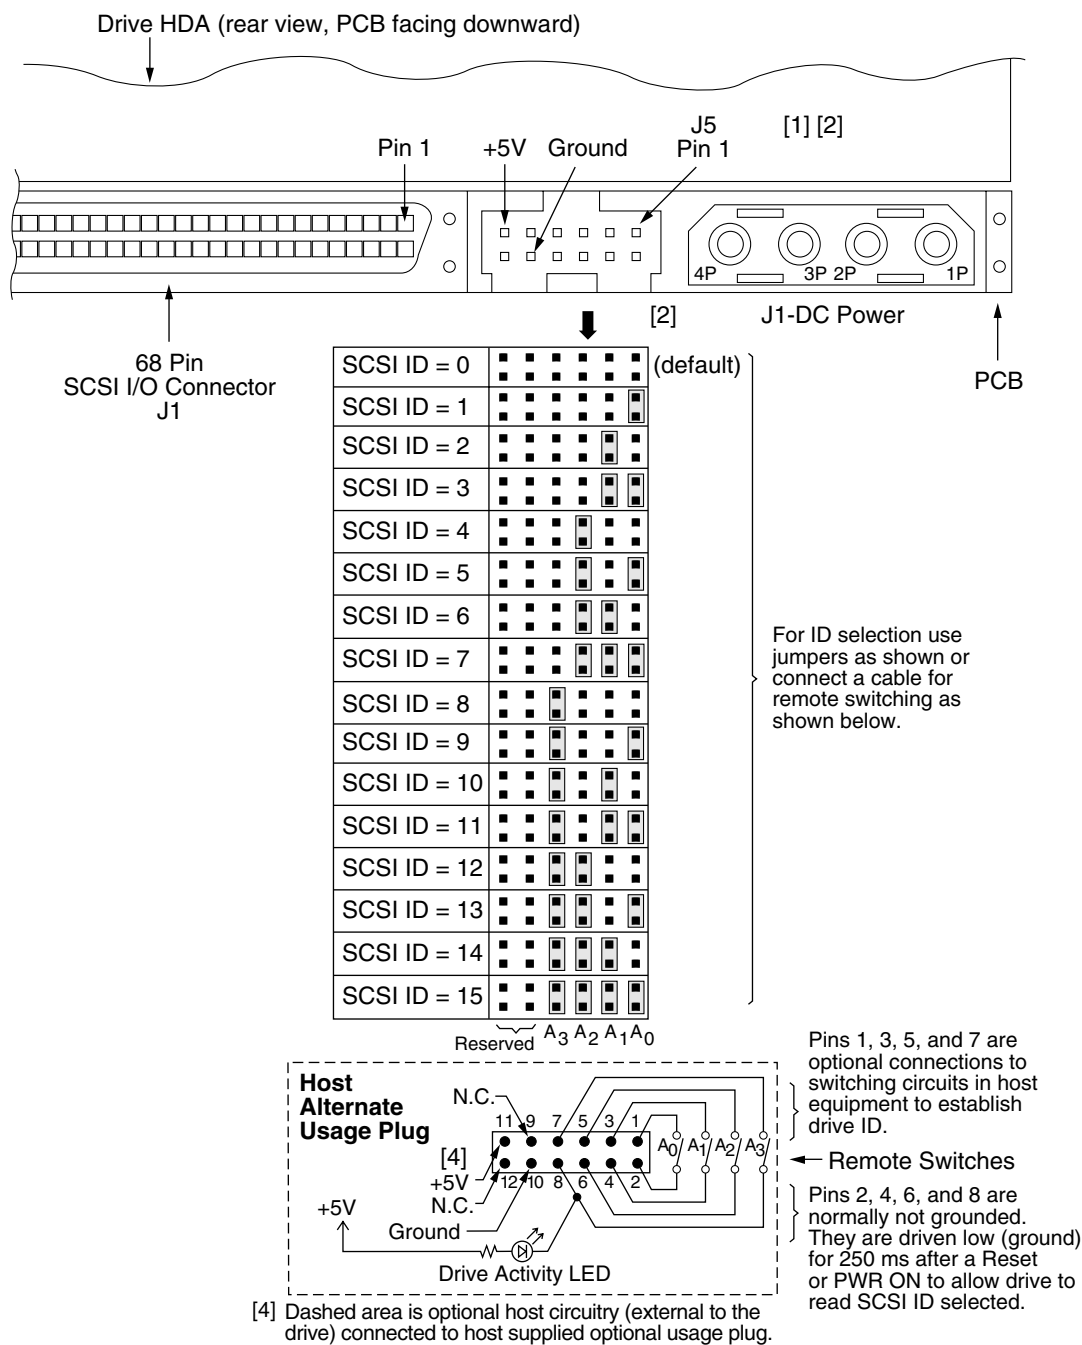
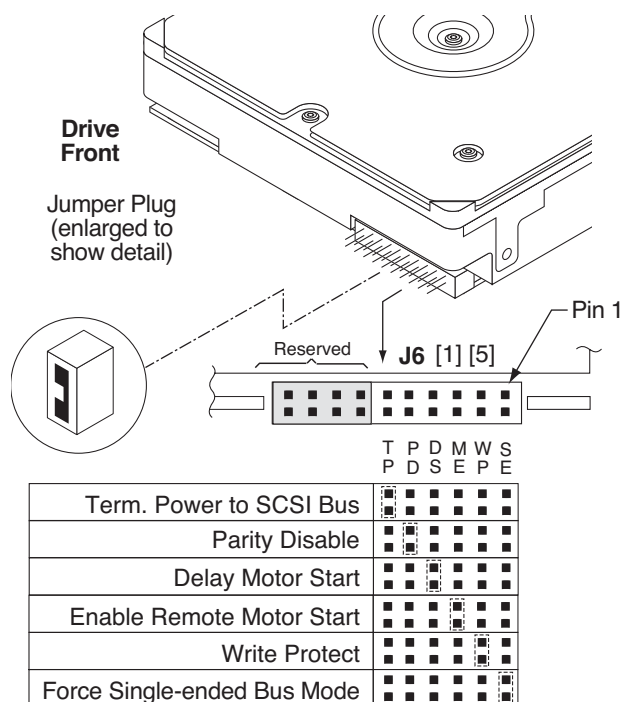

Figure 10. J5 jumper header (on LW models only)
Figure 11. J6 option select header (on LW models only)
The first thing to do when installing a drive is to set the drive SCSI ID and set up certain operating options. This is usually done by installing small shorting jumpers on the J5 connector (see Figure 10), or via the drive to host I/O signals on the LC model. Some users connect cables to J5 and perform the set-up using remote switches.
For option jumper locations and definitions refer to Figures 10 and 11. Drive default mode parameters are not normally needed for installation. Refer to Section 10.3.2 for default mode parameters if they are needed.
Figure 10 shows the drive ID select jumper connector. Figure 11 shows the option select jumper connector for all models. Figure 11 shows the drive's J6 jumper connector. The notes following the figures describe the functions of the various jumper positions on the connectors. Suggested part number for the jumpers used on J6 is Molex 52747-0211 (Seagate part number 77679052). A bag with the two jumper plug types is shipped with the standard OEM drives.
9.1.1 Notes for Figures 10 and 11.
- [6] Connect an external Drive Activity LED to J5 pin 8 (see Figure 10) and the drive's +5V power source, through an appropriately sized current limiting resistor.